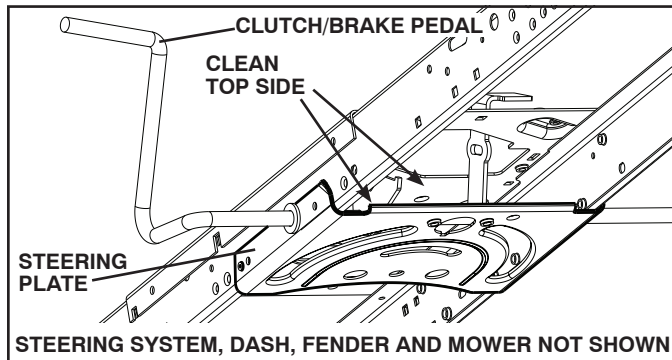

Fig. 40
- Clean debris from steering plate. Debris can restrict clutch/brake pedal shaft movement, causing belt slip and loss of drive. See Fig. 40.